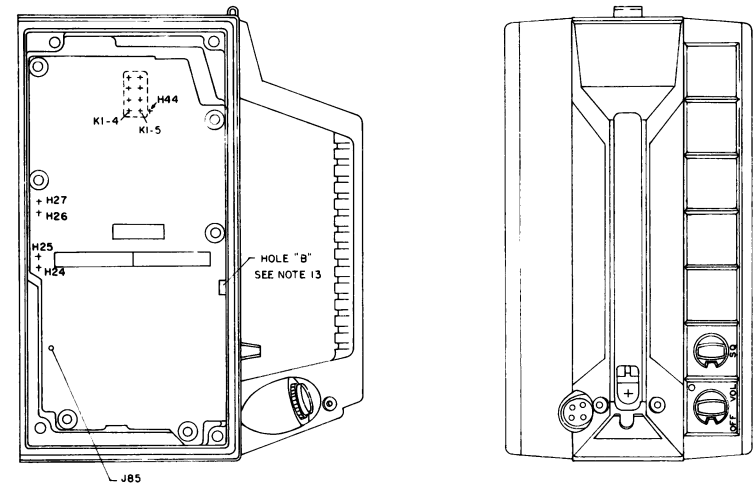

Figure 1 - Outline Diagram
1. Modify the system board according to the chart labeled MODIFICATIONS FOR SYSTEMS BOARD. Also, refer to Figure 1 - Outline Diagram.
5. Assemble Dual Front RCVR to J36, J37, J38, J39, J40 and J85 of systems board as shown in Figure 1.